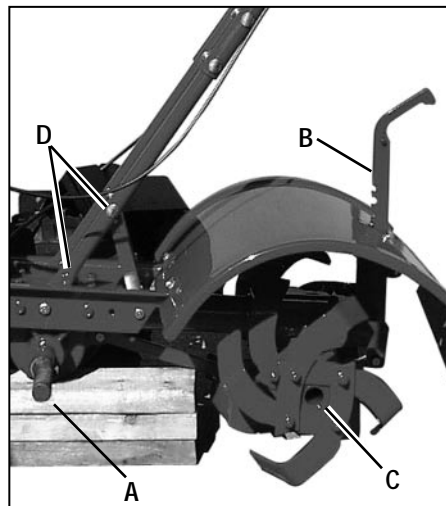

Figure 5-1: Tine shields removed for clarity.
After every 10 operating hours, oil or grease the lubrication points shown in Figure 5-1 and described below.
- Remove the wheels, clean the wheel shaft (A, Fig. 5-1) and apply a thin coating of grease to the wheel shaft.
- Grease the back, front and sides of the depth regulator lever (B, Fig. 5-1).
- Remove the tines and clean the tine shaft (C, Fig. 5-1). Use a file or sandpaper to gently remove any rust, burrs or rough spots (especially around holes in shaft). Apply grease to ends of shaft before installing tines.
- Oil the threads on the handlebar height adjustment screws and the handlebar attaching screws (D, Fig. 5-1).